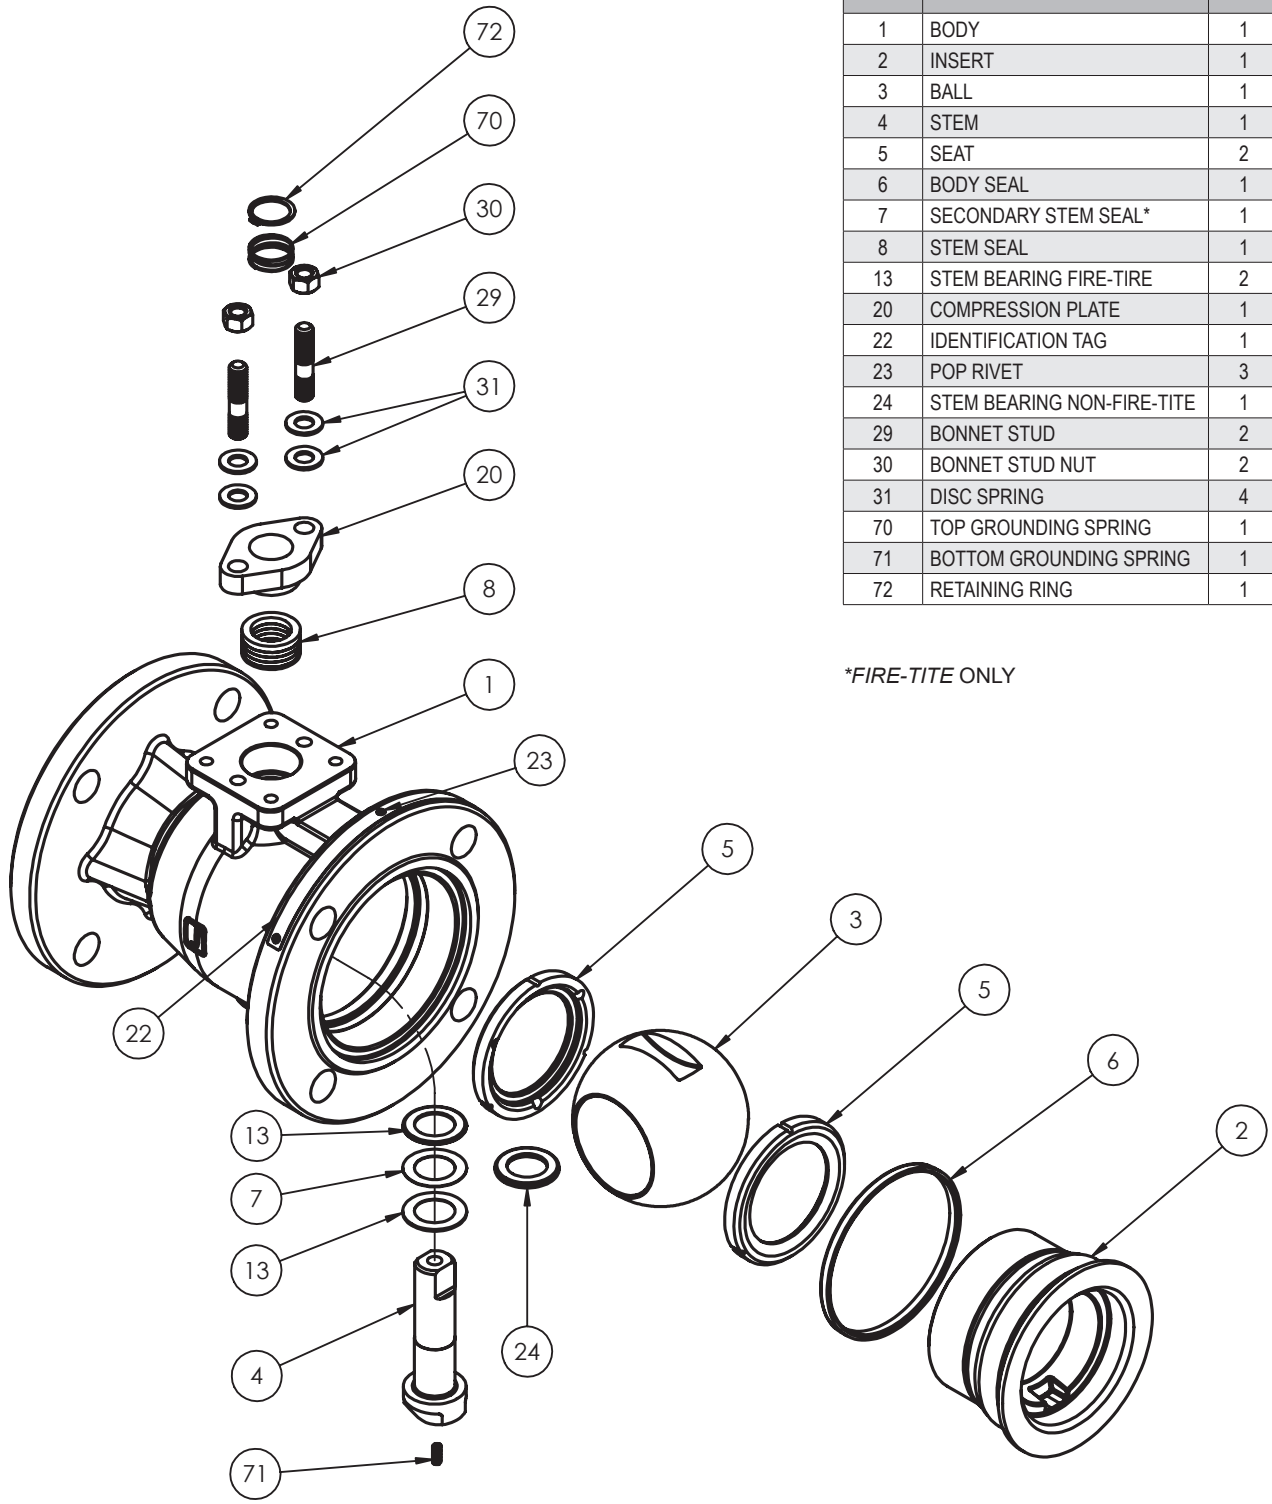

Figure 19.
- c. From **Figure 19 or 20**, the ballooned part number, part name and quantity required.